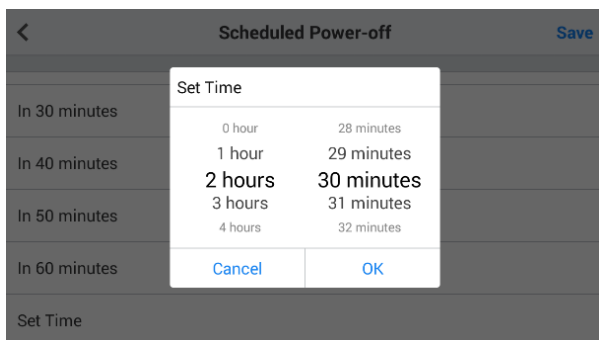

Figure 6-10 *Sample Set Time Screen*
3. Select one of the 7 choices: Disable, In 10 minutes, In 20 minutes, In 30 minutes, In 40 minutes, In 50 minutes, In 60 minutes. A tick will display to the right of the selected time. Manual time setting is also available. You can tap **Set Time** and roll up and down in the setting screen then tap **OK** to confirm (Fig 6-10).